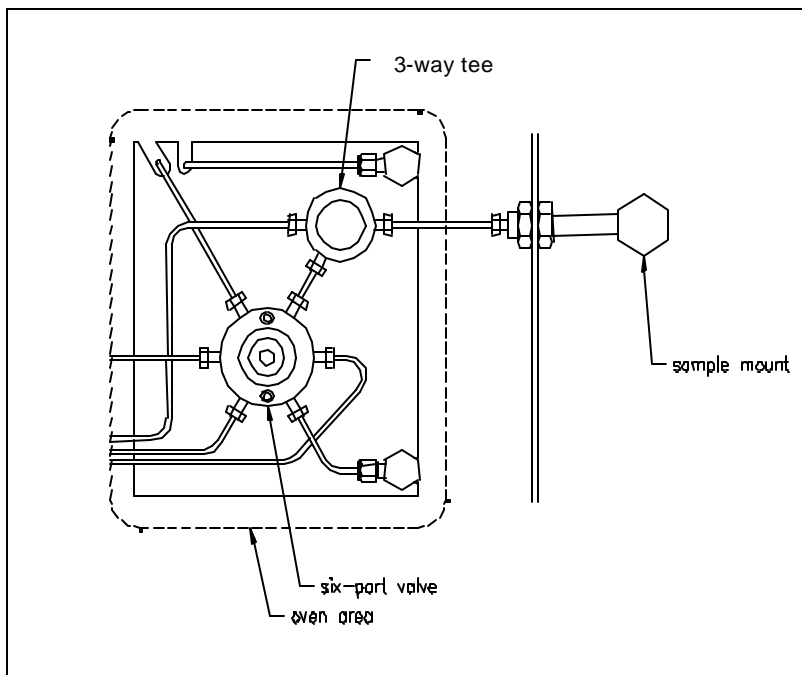
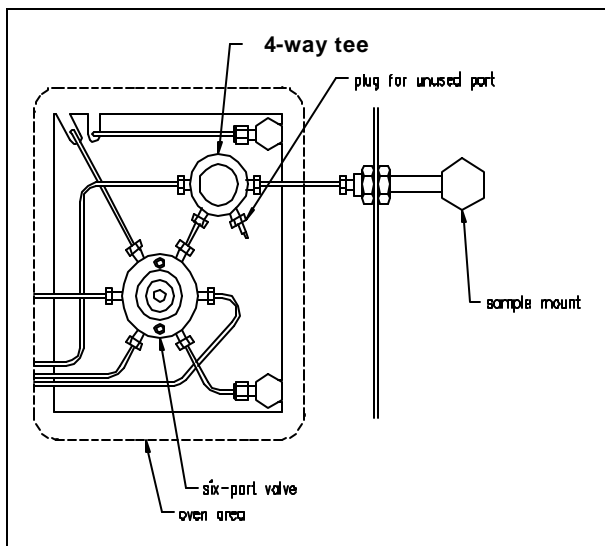

Figure 2-10: 3-Port Sample Tee
Figure 2-11: 4-Port Sampling Tee
8. If your concentrator has a 3-way tee (Figure 2.10). You must replace it with a 4-way tee (Figure 2.11) before you can plumb the heated transfer line.
10. Referring to Figures 2-11 and 2-12 locate the 4-way tee.
11. Locate the fitting attached to the cross union that has no line or tubing connected. This fitting is a plug. Remove the plug (Figure 2.10).